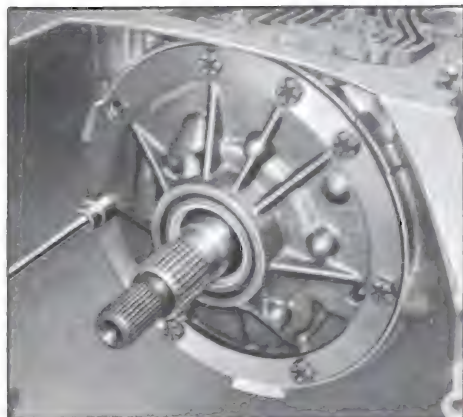

Figure 5-536
2. Remove the pump attaching bolts. See Figure 5-536